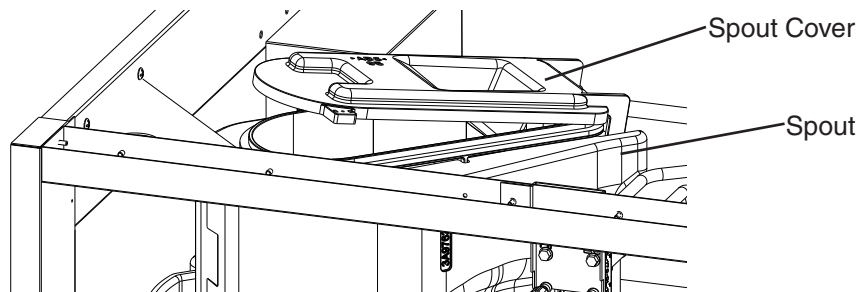

Fig. 21
- 6) "GM" LED and "COMP" LED are on. Open the spout cover slightly. See Fig. 21. "GM" LED and "COMP" LED turn off within 10 seconds and the control board sounds a 9 beep alarm. Close the spout cover.
- 2) Remove the spout spring, then open the spout cover. See Fig. 21. Next, remove the proximity switch from the spout assembly, then remove the spout and chute assembly, and spout packing from the icemaker.